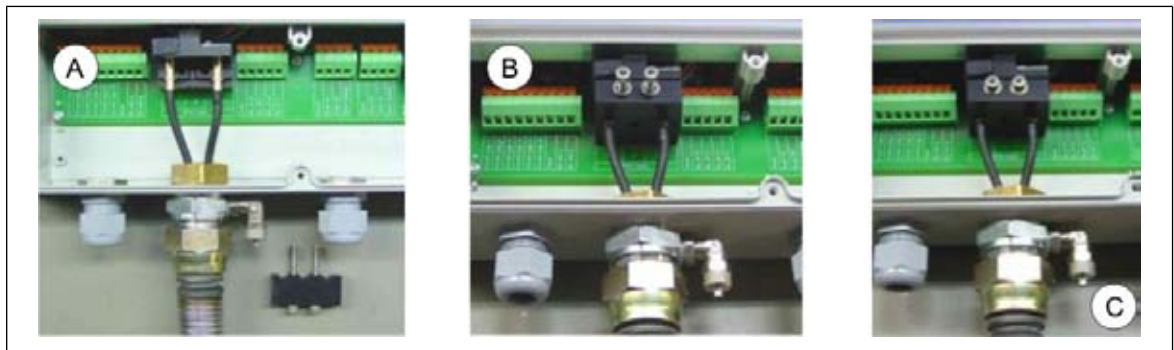

Fig. 2.9. Connecting cables to optical unit.
7. Lock the cables in place with the optic block cover, fig. 2.9. points A & B.